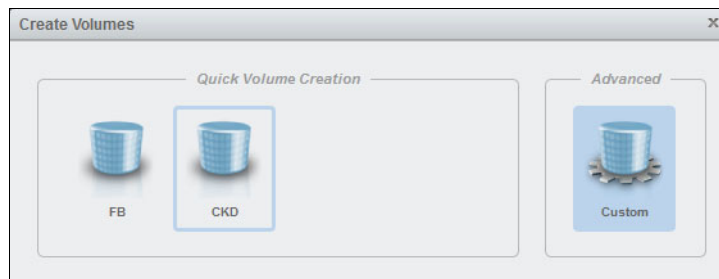

Figure 11-79 Create CKD Volumes: Advanced
1. From the **Create Volumes** window, select **Advanced** (Custom), as shown in Figure 11-79.